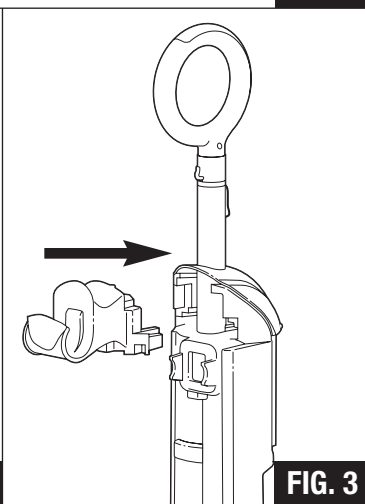

FIG. 3
Step 2: Slide the carry handle into place as pictured; secure with 2 screws provided (FIG. 3).